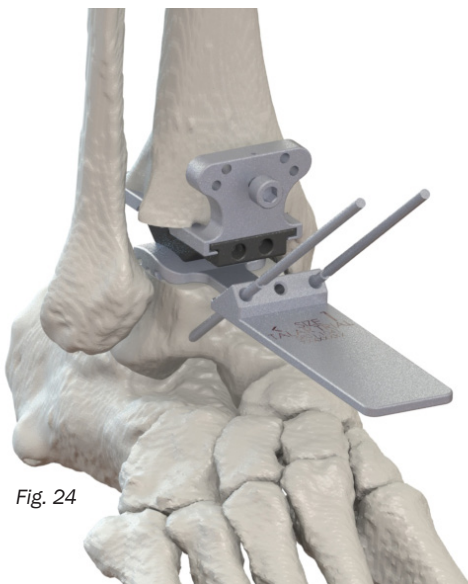

Fig. 24
2.7 With the Trial Assembly in the desired position, place the break-off wires into the talar trial. Do not insert the break off section into the talar trial. The medial and lateral holes are preferred. Though the middle hole can be used as an alternate (Fig. 24).